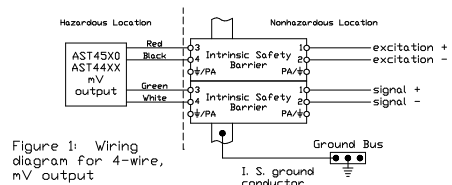

Figure 1: Wiring diagram for 4-wire, mV output
2. For installations in accordance with Figs. 1 and 3, one dual-channel or two single-channel barriers may be used, where in either case, both channels have been Certified for use together with combined entity parameters.